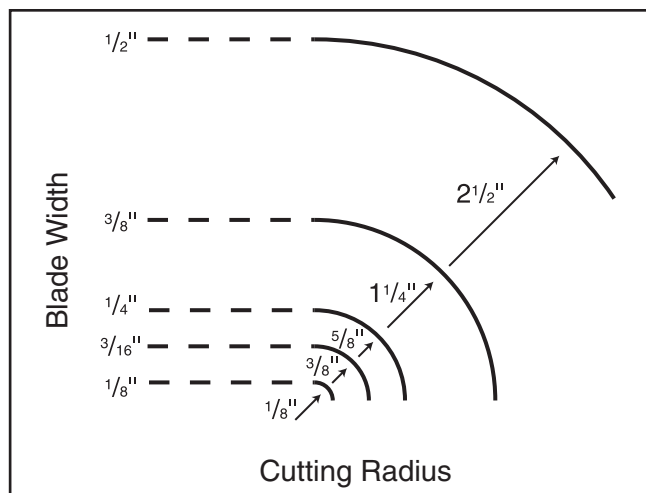

Figure 35. Blade width radii.
- **Curve Cutting:** Use the chart in **Figure 35** to determine the correct blade for curve cutting. Determine the smallest radius curve that will be cut on your workpiece and use the corresponding blade width.